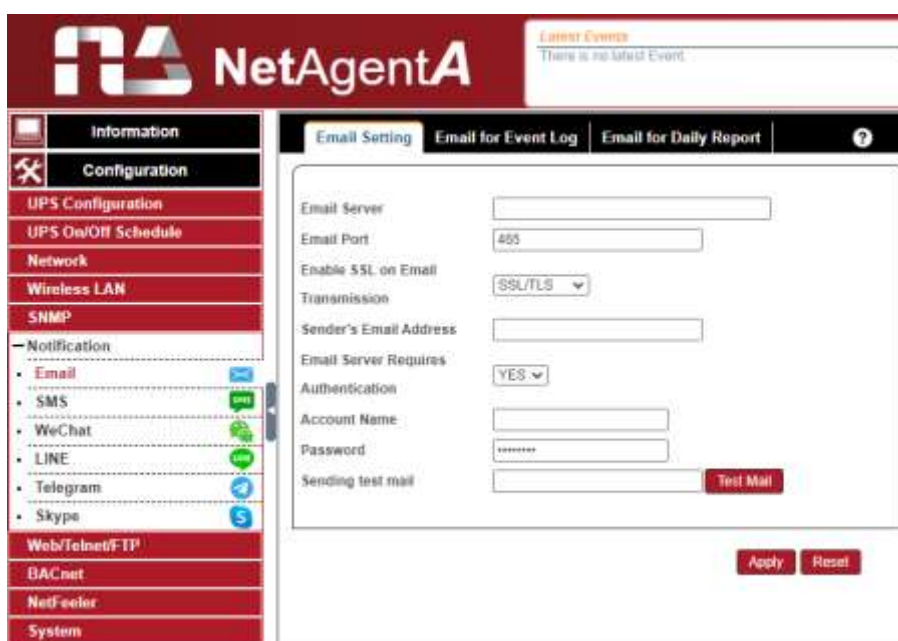

Fig. 6-10 Configuration menu
- In the "Configuration" menu you can find the main settings of the card (Fig. 6-10).